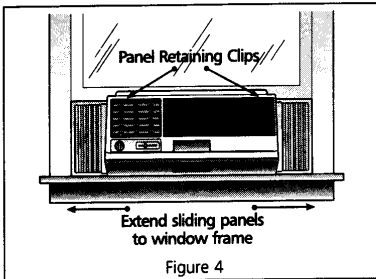

Figure 4
- Extend sliding panels away from unit, and into window frame. The foam trim around the sliding panels will form a seal within the window frame. Push down retaining clips to lock sliding panels in place (Figure 4).